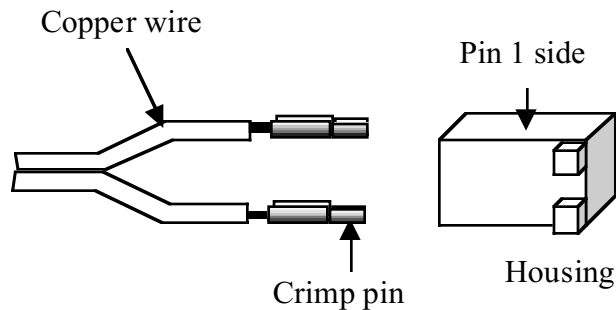

Figure 10-3
- ☐ Solder crimp pins to the two wires at one end (Figure 10-3).